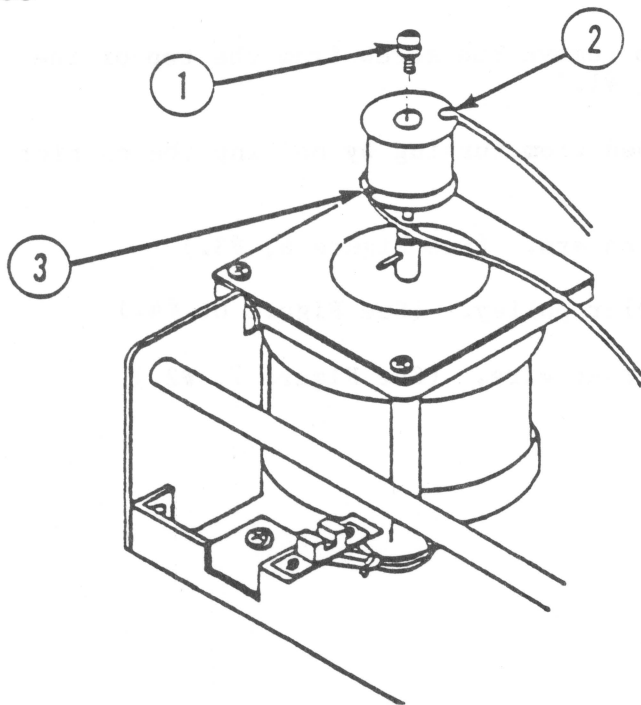

FIGURE 8
17. Remove the bottom end of the carrier wire from the motor pulley. (See Figure 8, #3.)